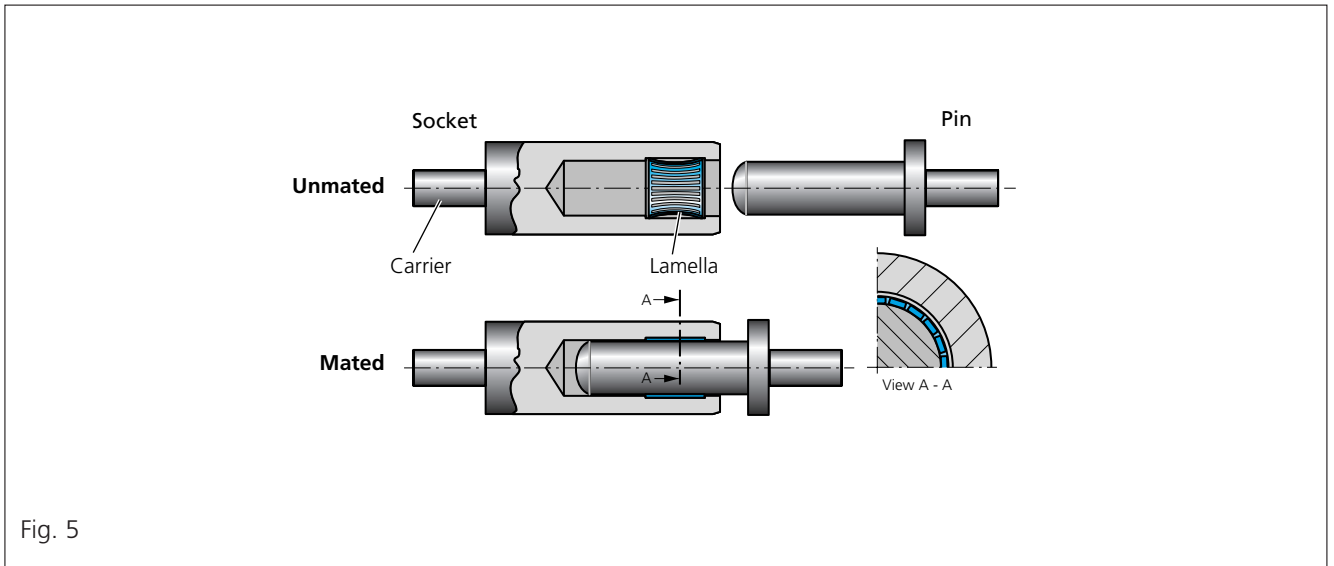

Fig. 5
**The lamella contact** (ODU Lamella™) also known as louvered contact, has many contact points. One or more of the stamped contact bands can be used in the same carrier (Fig. 5).